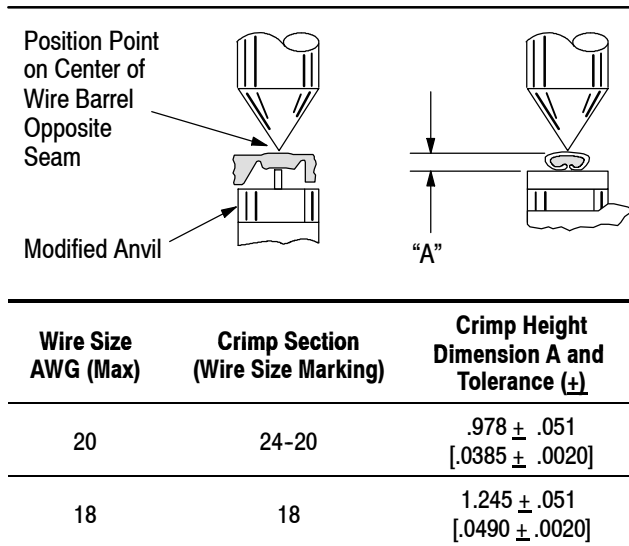

Figure 4
This tool is provided with a crimp adjustment feature. Initially, the crimp height should be verified as specified in Figure 4. Refer to Section 6, CRIMP HEIGHT INSPECTION, and Section 7, RATCHET ADJUSTMENT, to verify crimp height before using the tool to crimp desired contacts and wire sizes.
1. Refer to Figure 4 and select a wire (maximum size) for each crimp section listed.
3. Using a crimp height comparator, measure the wire barrel crimp height as shown in Figure 4. If the